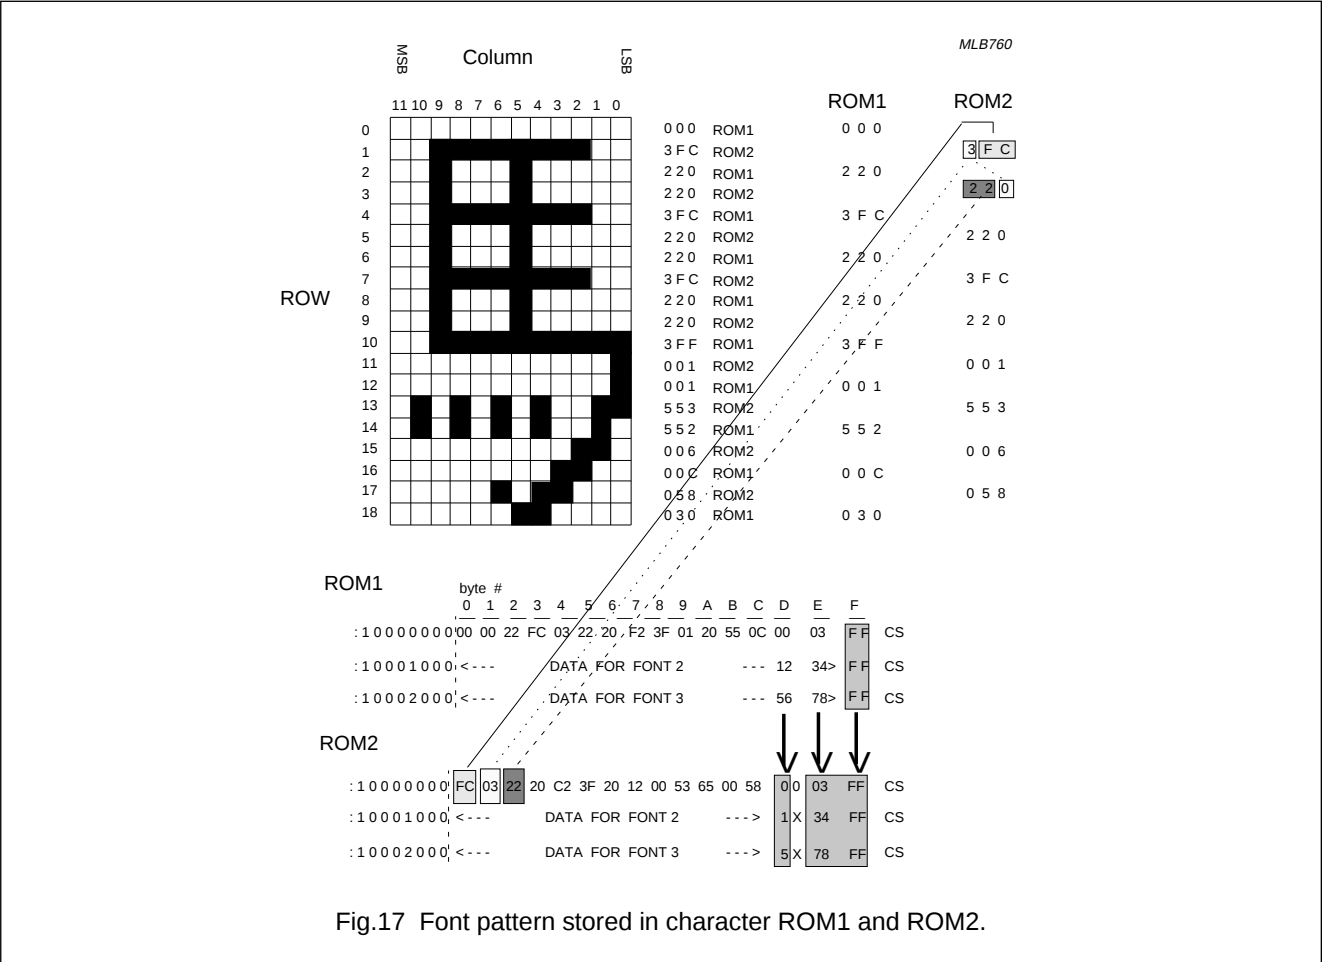

Fig.17 Font pattern stored in character ROM1 and ROM2.
ROM is divided into two parts: ROM1 and ROM2. The organization of the bit patterns stored in ROM1 and ROM2 and the file format to submit to Philips for customized character sets is shown in Fig.17.
- Regarding Fig.17 the following points should be noted.